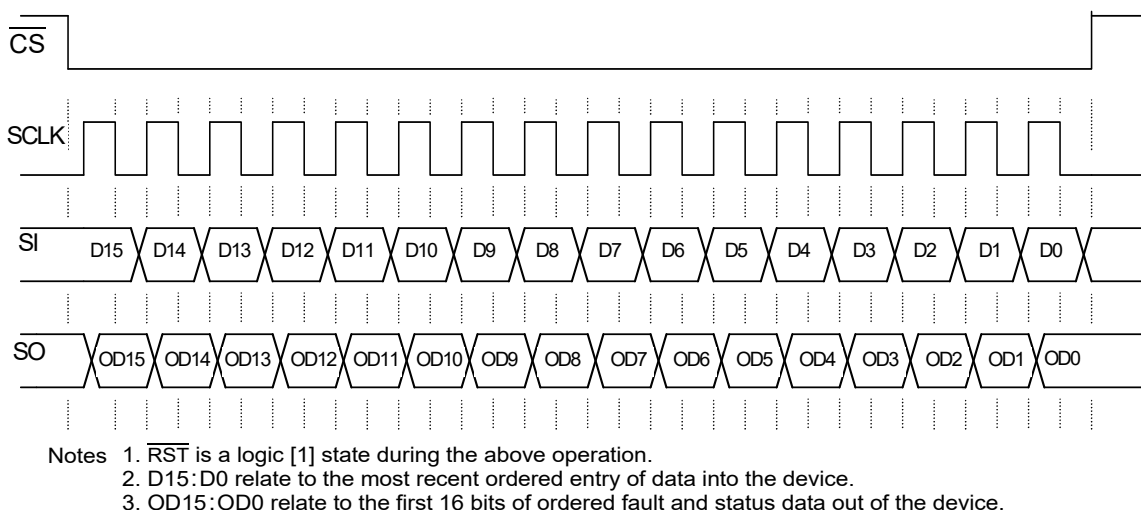

Figure 10. Single 16-bit word SPI communication
The SCLK pin clocks the internal shift registers of the 10XS3435 device. The serial input (SI) pin accepts data into the input shift register on the falling edge of the SCLK signal while the serial output (SO) pin shifts data information out of the SO line driver on the rising edge of the SCLK signal. It is important the SCLK pin be in a logic low state whenever  $\overline{CS}$  makes any transition. For this reason, it is recommended the SCLK pin be in a logic [0] whenever the device is not accessed ( $\overline{CS}$  logic [1] state). SCLK has an active internal pull-down. When  $\overline{CS}$  is logic [1], signals at the SCLK and SI pins are ignored and SO is tri-stated (high-impedance) (see Figure 10, page 28). SCLK input has an active internal pull-down,  $I_{DWN}$ .